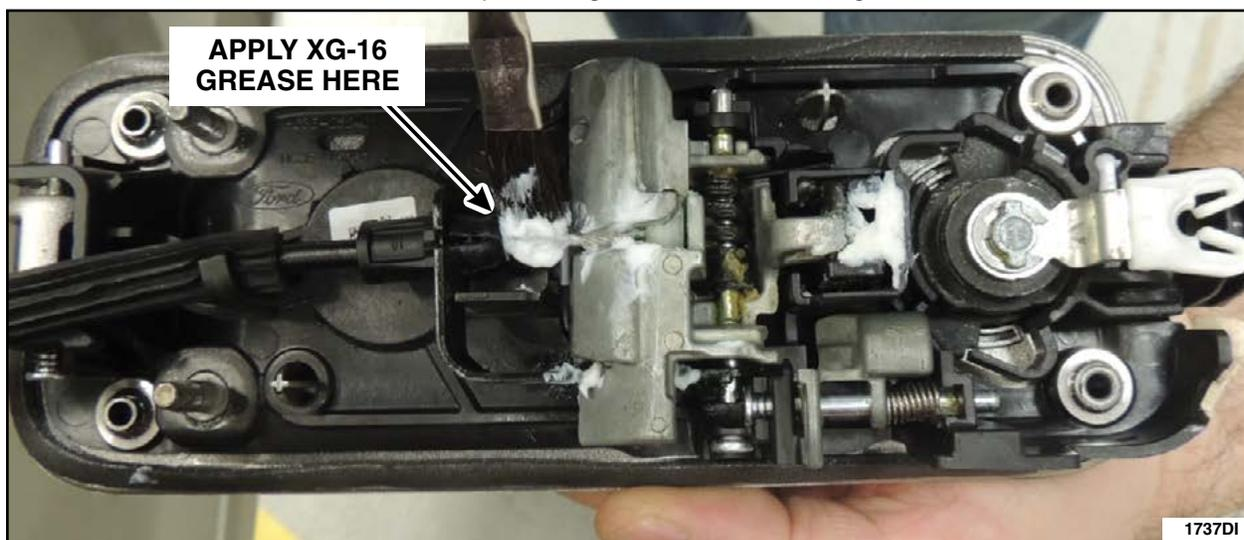

FIGURE 30
33. Reconnect the exterior door handle cable to the door handle and lubricate the door handle cable end with Motorcraft® XG-16 low temperature grease, as shown in Figure 30.